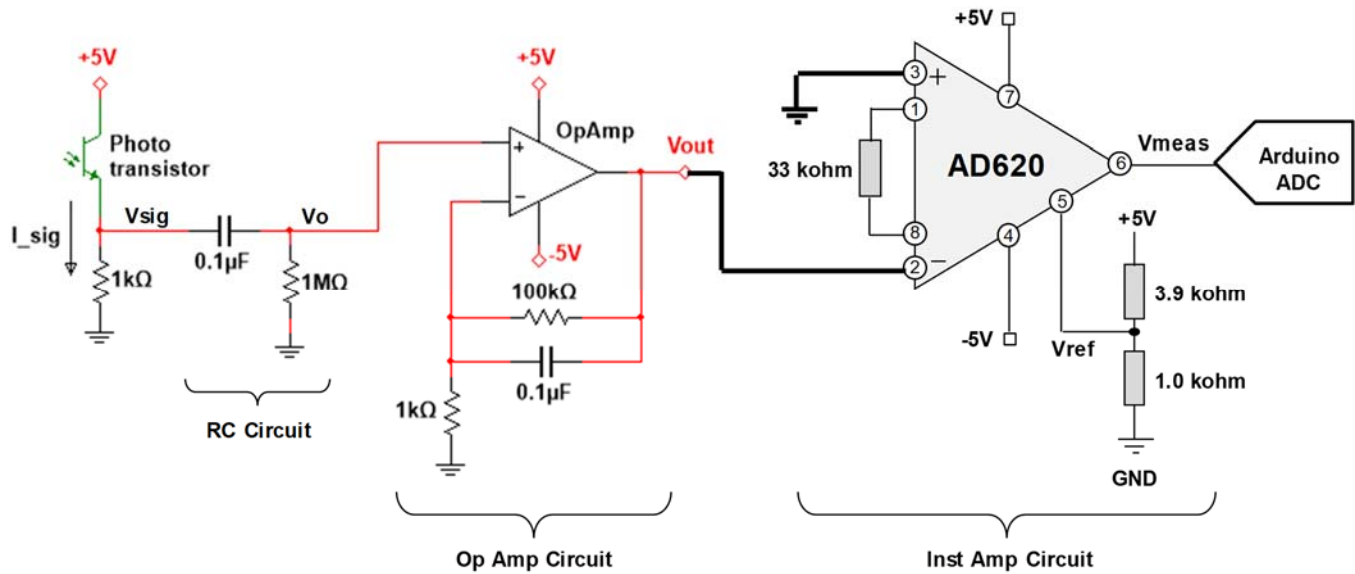

Fig. 6: The “Inst Amp” circuit provides additional gain, inverts the signal, and adds a 1V offset.
- **Step 3a: Build the instrumentation amplifier circuit (see Fig. 6).**